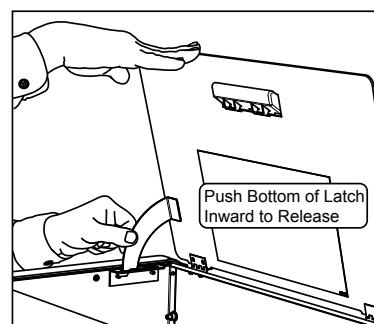

Figure 2.3
4. Inspect hopper and ensure there is pellet fuel in the hopper. If there is fuel in the hopper, close lid and proceed to step 5, **Figure 2.3**.